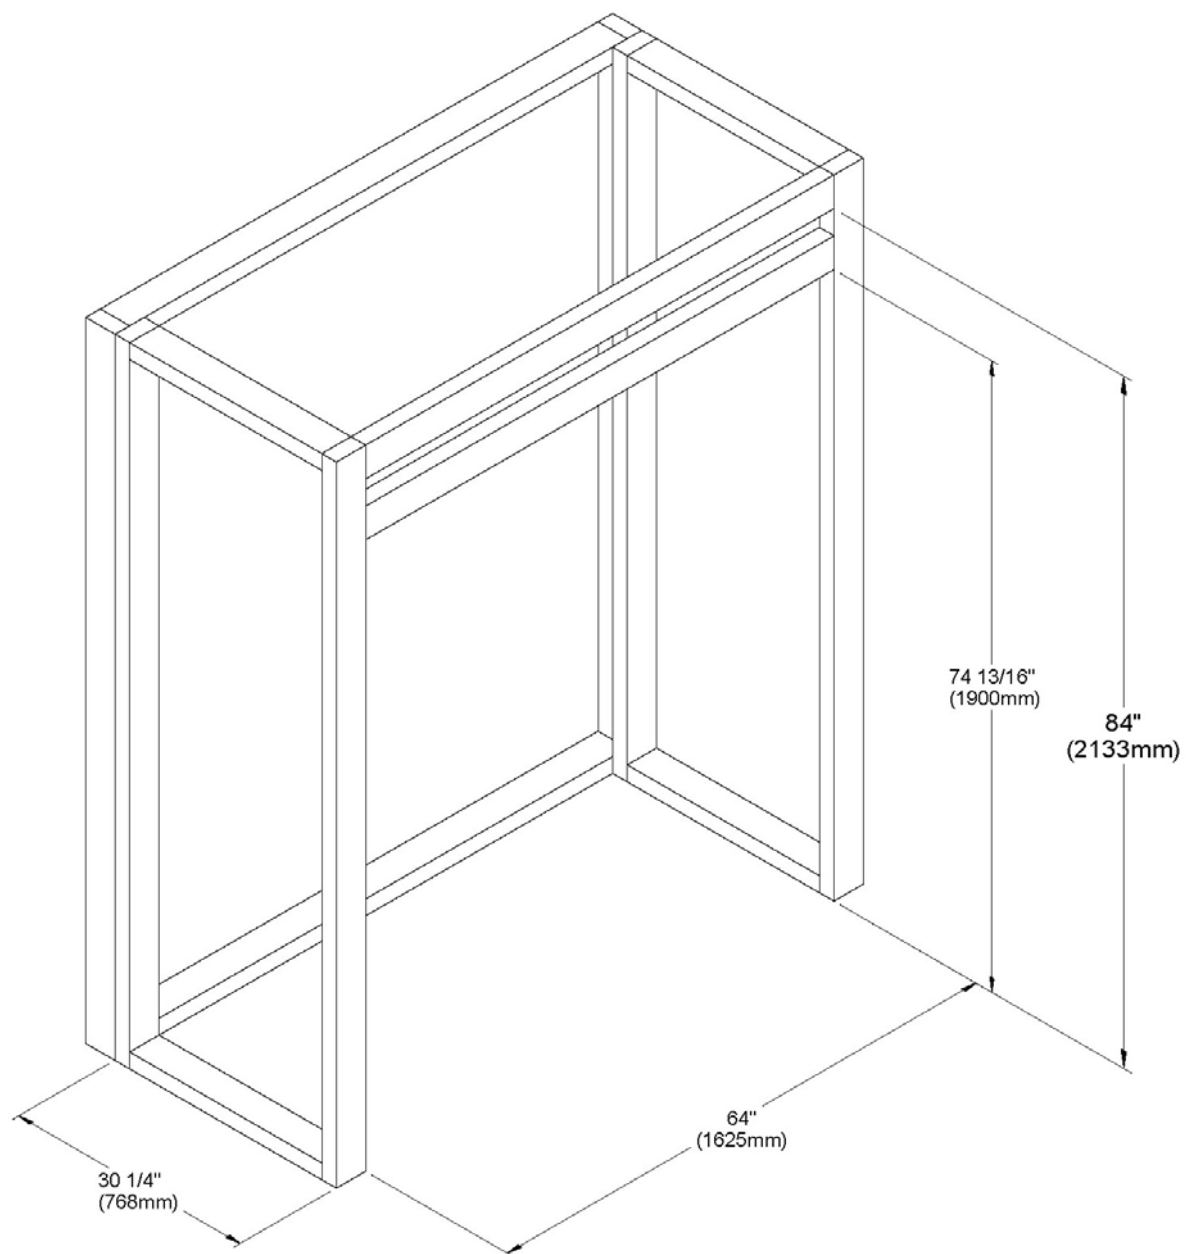
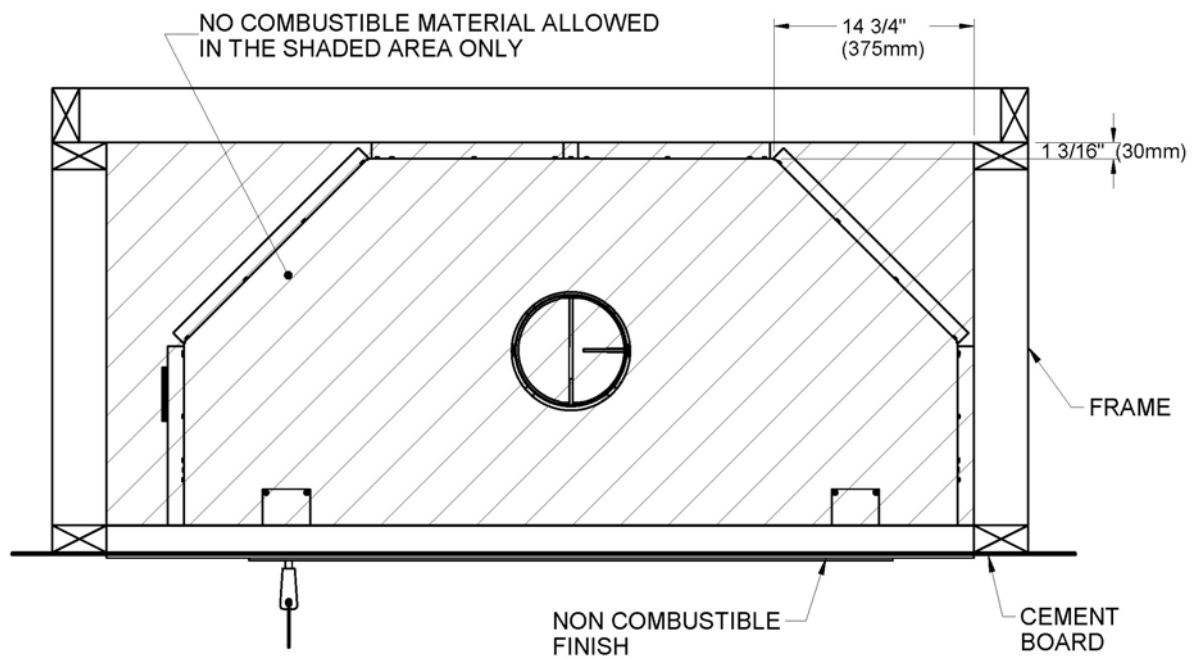

Figure 11
Figure 12
B. Frame the fireplace with vertical studs on each side of the fireplace running from floor to ceiling (see **Figure 11**). Position the studs back from the front edge of the fireplace, leaving a space the thickness of the facing material so that the facing can be installed flush with the fireplace facing (within limitations of **Figure 12**). Frame headers between the vertical studs only as follows: